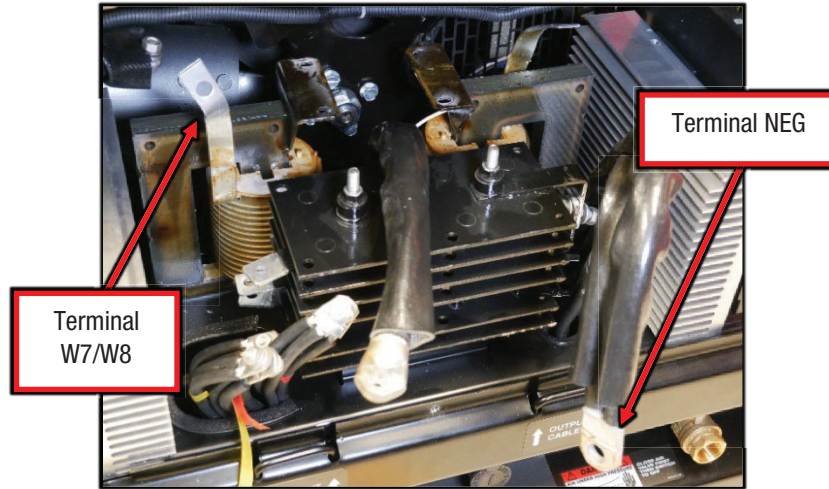

Figure F.2
- A.2. Label and disconnect the leads from the following terminals on Choke A, refer to Figure F.2.
- A.3. Perform the static measurements in Test Table 1, refer to Figure F.2 for test point locations. NOTE: MEASUREMENTS ARE MADE ON CHOKE A WITH THE LEADS REMOVED.